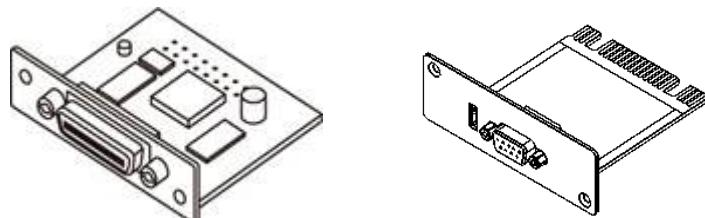

Figure 1-3 GPIB/CAN Interface
1. Figure 1-3 shows the optional GPIB/CAN interface of model 618xx (item 9). A cover plate is provided if this option is not ordered.